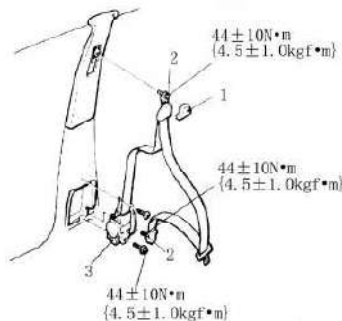

Fig. 19-33
1. Disassembly and installation(see Fig. 19-33)